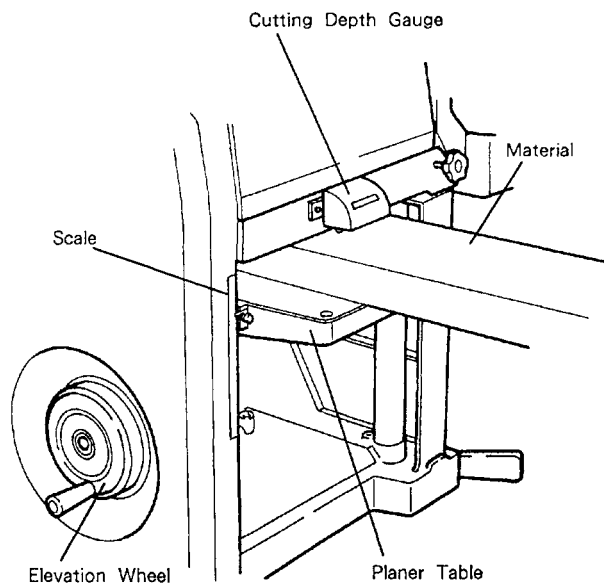

Fig. 5
1. Turn the Elevation Wheel to set the scale at the desired finish dimension (the scale indicates the thickness planing dimension); place the material on the Planer Table and feed it into the Planer (Fig. 5).